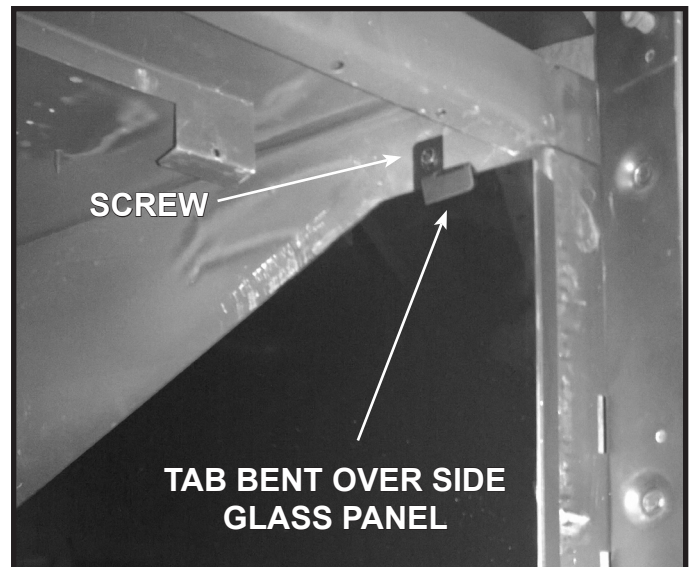

Figure 11.4 Install Side Glass Retention Bracket
4. Install side refractory bracket between the insulation board and the side of the firebox. Secure with screw as shown in Figure 11.4.
5. Bend side refractory tab over glass panel. See Figure 11.4.